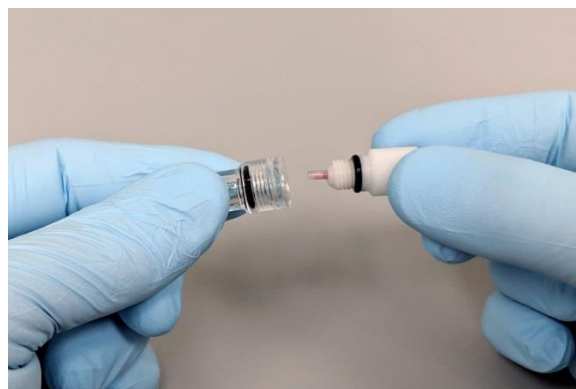

Figure 1-16 Transport housing & reference electrode
- Unscrew the transport housing from the reference electrode and check that the O-ring on the electrode is properly seated. (Figure 1-16)